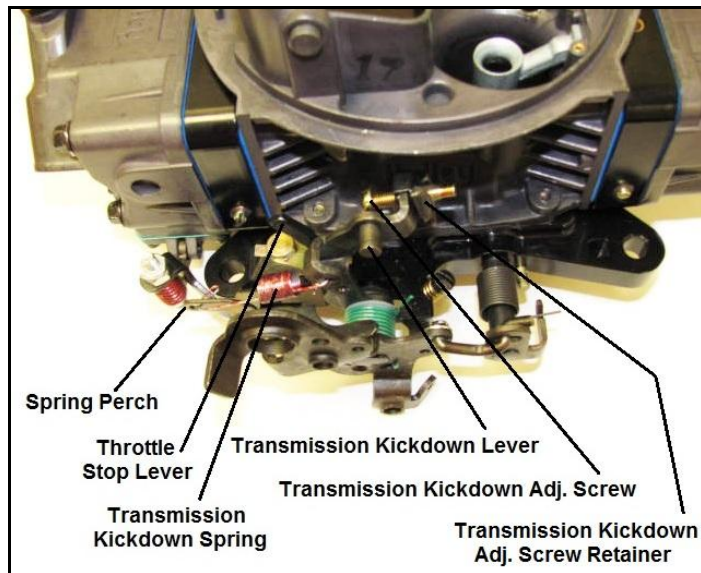
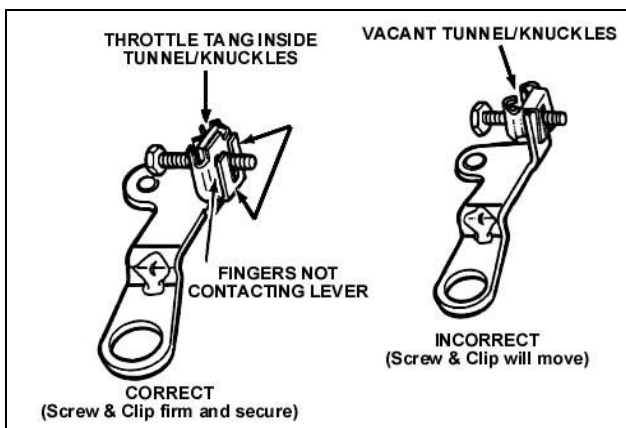

Figure 2—Ford applications
Figure 3—Ford applications
2. Insert the transmission kickdown screw with the retaining clip on the transmission kickdown lever (**Figure 2**). This assembly must be installed according to the detailed drawing (**Figure 3**).
4. Install the transmission kickdown spring between the transmission kickdown lever and spring perch on the solenoid/dashpot bracket (Figure 2).